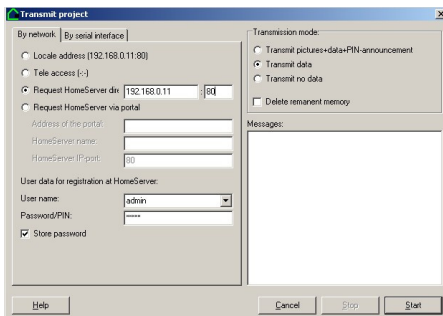

Fig 5.5: Settings for data transfer via local network.
- Make the settings according to Figure 5.5. You can also directly change the IP address in this screen.